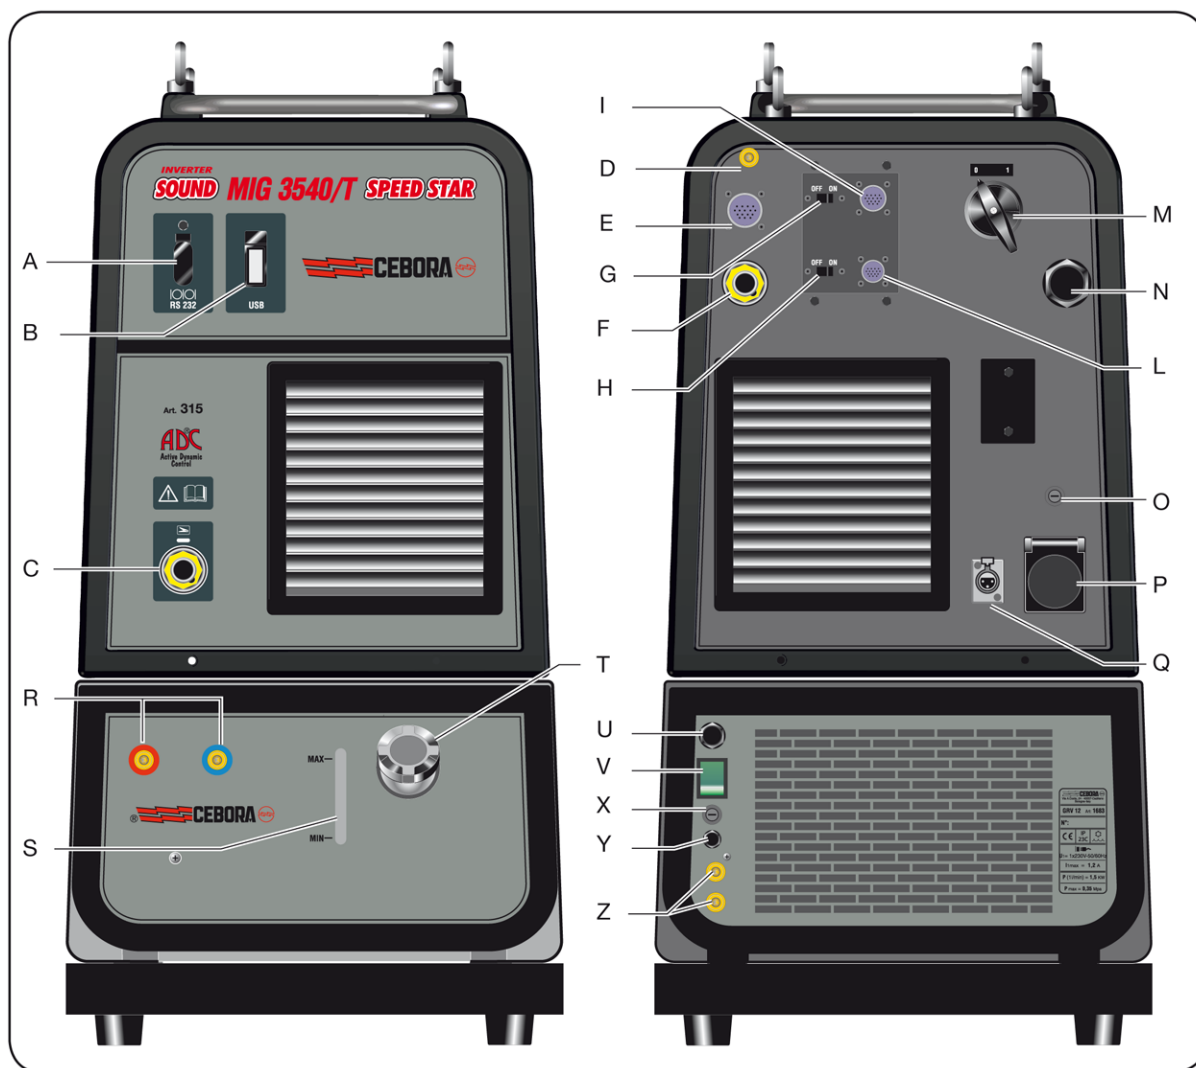

fig. 4
Power up the Welding System using the switch **M** of the Power Source (fig. 4).
3.3 Setting up the Cooling Unit (fig 4).
4.3 Commands and fittings description (fig. 4).